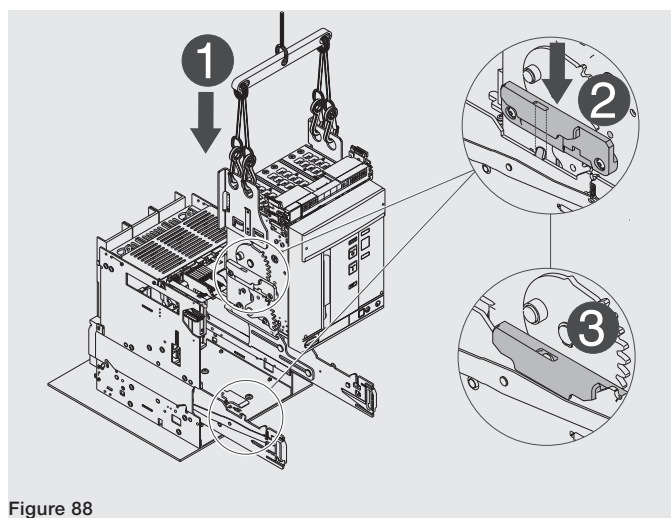

Figure 88
4. Position the moving part on the guides of the fixed part. Latch by inserting the hollow part of the side in the latch of the guide of the fixed part. See Figure 88.